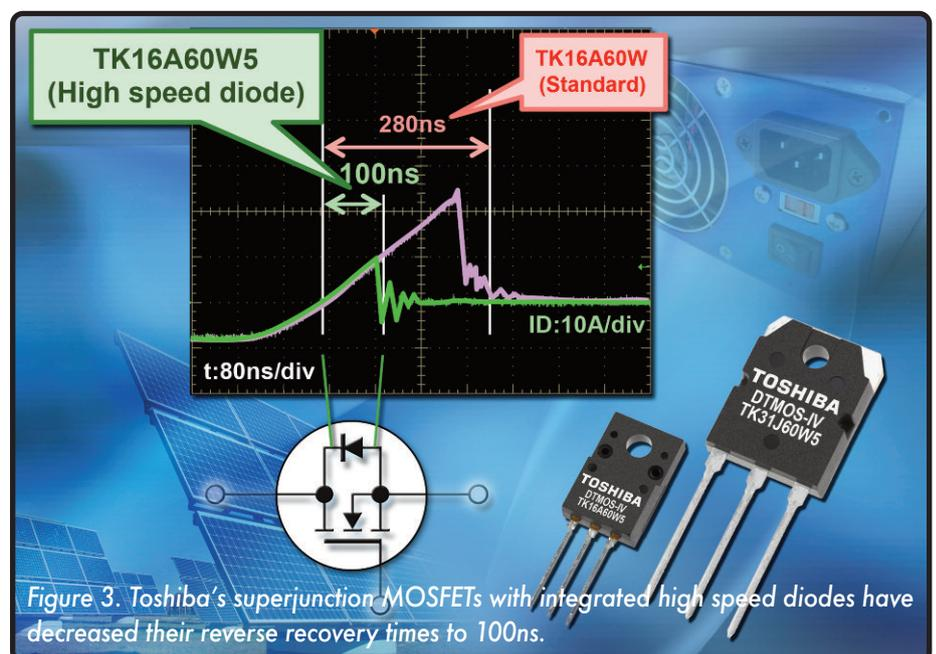

Figure 3. Toshiba's superjunction MOSFETs with integrated high speed diodes have decreased their reverse recovery times to 100ns.
Toshiba has integrated high speed diodes into its superjunction MOSFET packages. High speed (fast recovery) diodes, essential for protecting the MOSFET in switch mode power supplies, can allow faster switching frequencies if their reverse recovery time, t_{rr} , is quick enough (Figure 3). Diodes in the three new devices offer t_{rr} of 100ns (TK16A60W5), 135ns (TK31J60W5) and 150ns (TK39J60W5). Additionally, a 30% reduction in $R_{DS(ON)} \cdot A$ (on-resistance x area) is down to Toshiba's latest DTMOS IV process, which means space could be made in the same TO-220SIS/TO-3P(N) packages to incorporate the diode. DTMOS IV uses only one epitaxial process to build the superjunction structure. The resulting structure gives the MOSFETs better high temperature characteristics too.